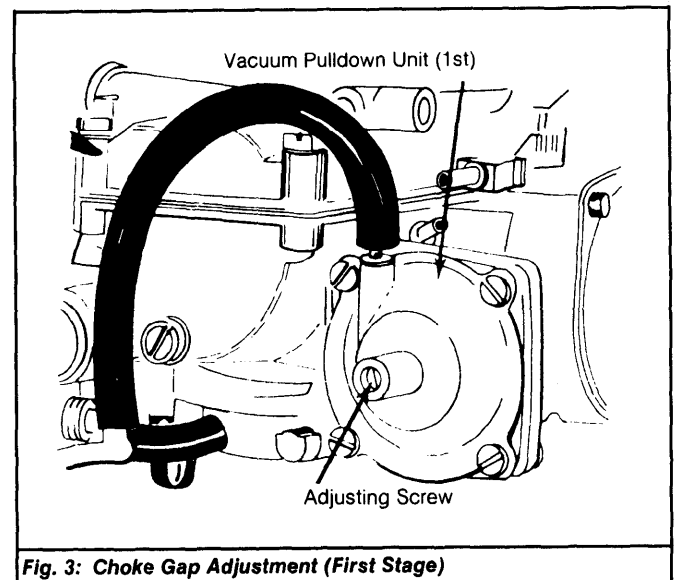
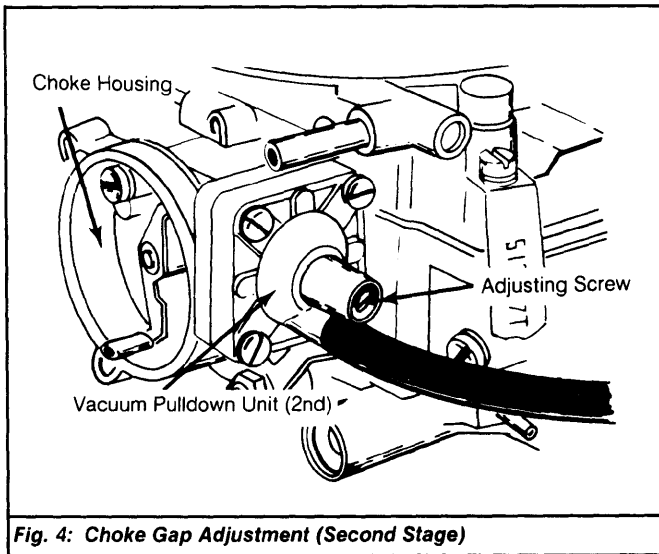

Fig. 3: Choke Gap Adjustment (First Stage)
Fig. 4: Choke Gap Adjustment (Second Stage)
**Zenith 2B** - First stage gap should be .128-.148" (3.25-3.75 mm). Turn adjusting screw in or out to correct gap. See Fig. 3. Second stage gap should be .187-.207" (4.75-5.25 mm). Turn adjusting screw in or out to correct gap. See Fig. 4.